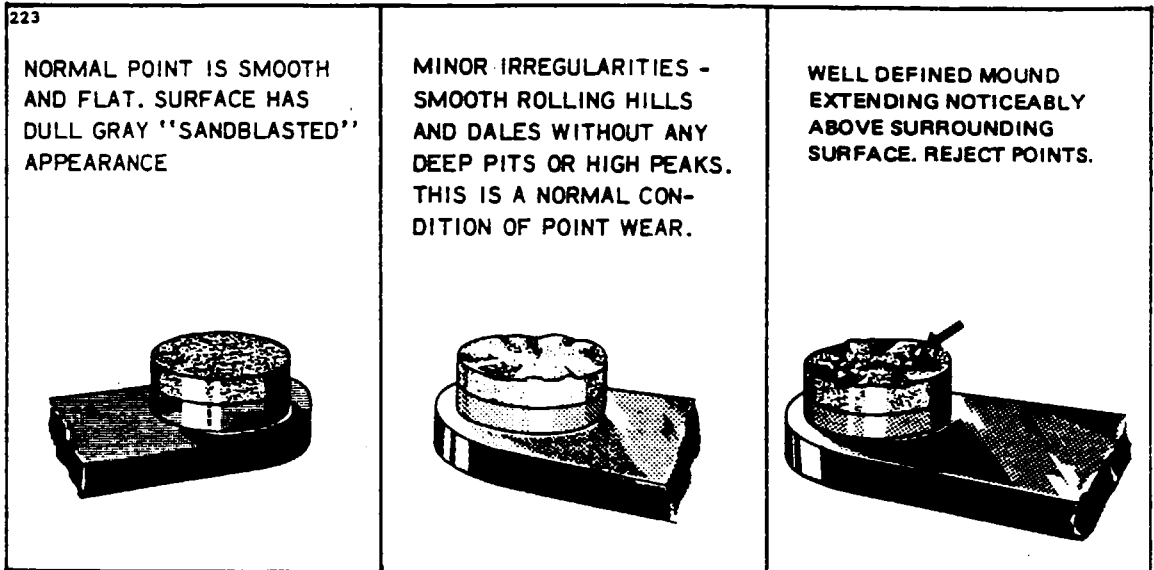

Figure 8-10. Contact Points
- f. Examine the contact points for excessive wear or burning. Figure 8-10 shows how the average contact point will look when surfaces are separated for inspection.
Desired contact surfaces have a dull gray, sand-blasted (almost rough) or frosted appearance, over the area where electrical contact is made. This means that points are worn in and mated to each other, thereby providing the best possible electrical contact and highest efficiency of performance. Minor irregularities or roughness of point surfaces are not harmful. (Refer to Figure 8-10, center.) Neither are small pits or mounds, if not too pronounced. If there is a possibility of pit becoming deep enough to penetrate pad (refer to Figure 8-10, right), reject contact assembly.